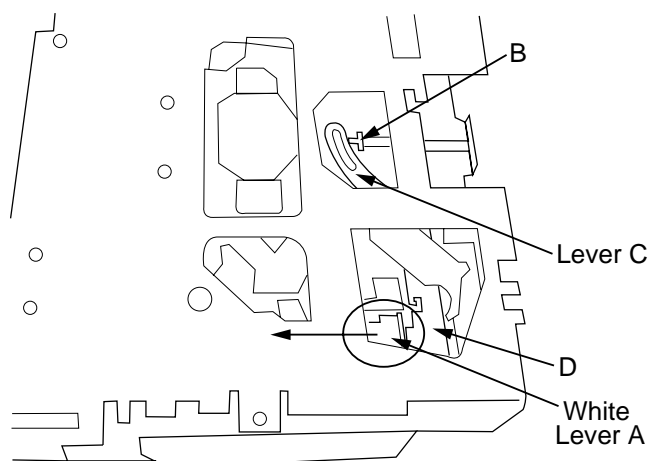

Figure 16-2
2. While applying a voltage, push the white lever A in the direction indicated by the arrow as shown in Fig. 16-2.
(Therefore, the loading operation also starts if the B section is pushed in the right direction as shown in Fig. 16-2 instead of pushing the lever A instructed in the step 2 above.)